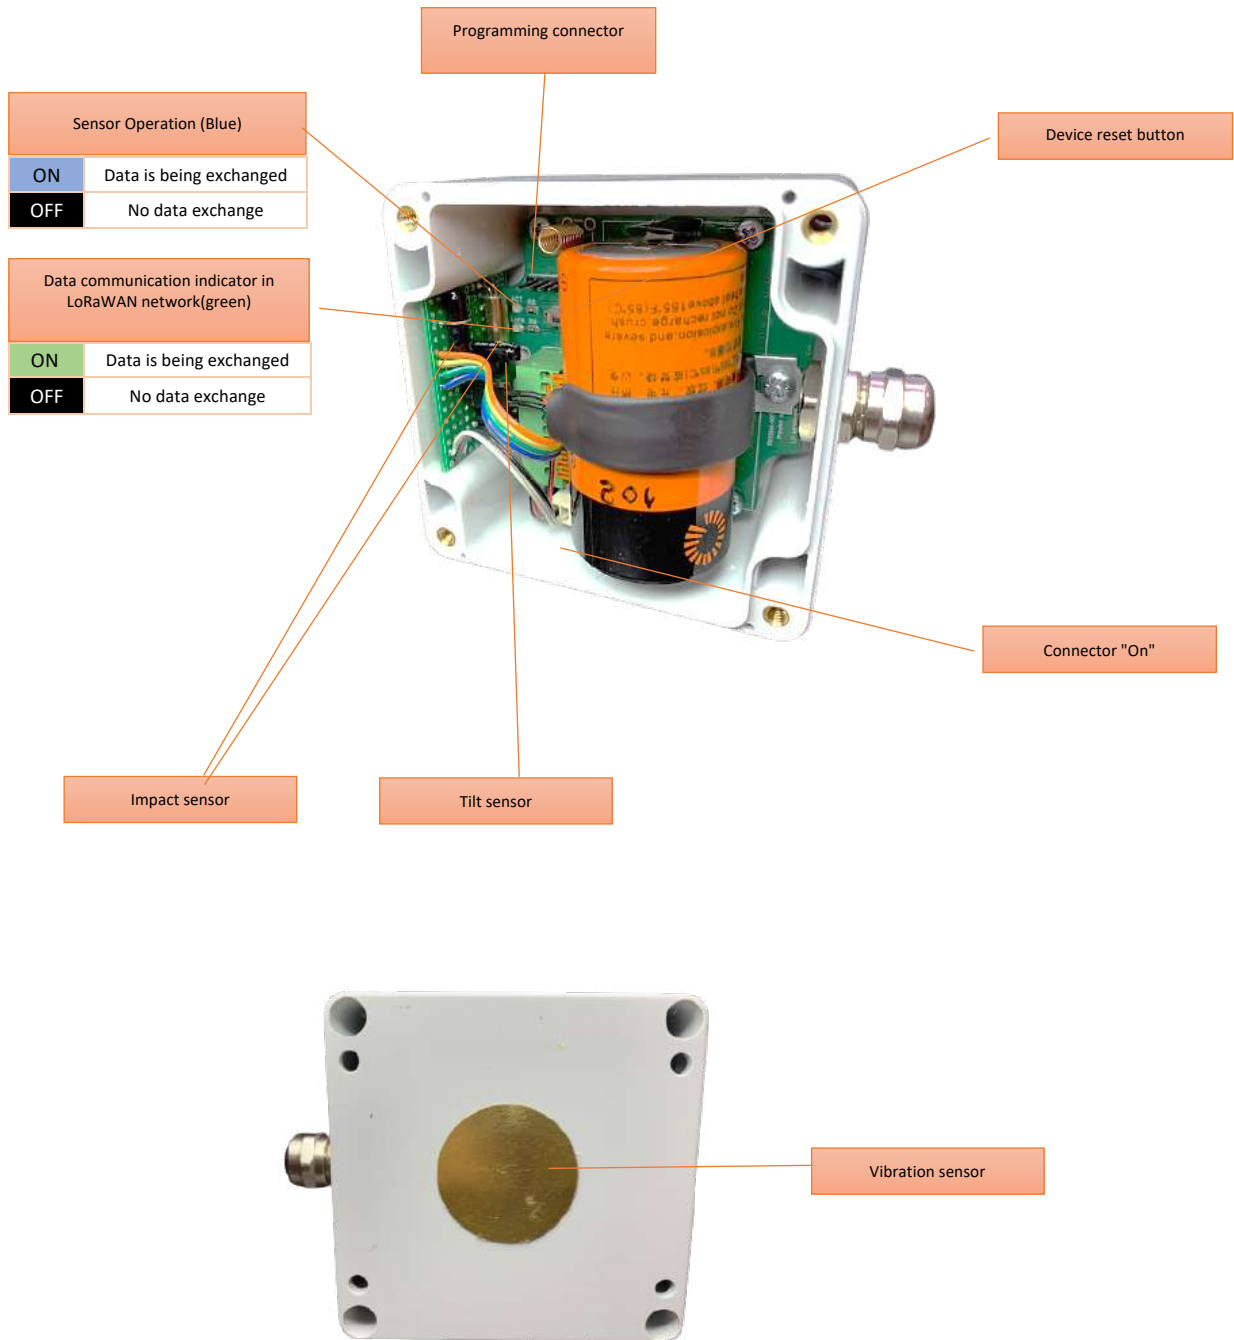

Fig.1 Description of ROSSMA IIOT-AMS ESD device
- Connect the switching device using a cable (with a recommended core section no more than 1 mm) to the end device via terminals (Fig. 1, Fig. 2, Fig. 3)
- Install the jumper on the activating pins (Fig.2, Fig. 3). The switching device ROSSMA IIOT-AMS ANALOG X4 PWR is connected to the power supply 220V (Fig.1)